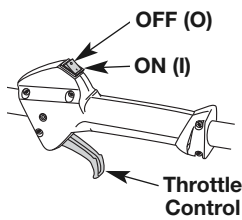

Fig. 6
NOTE: There is no need to turn the unit on. The On/Off Control is in the ON (I) position at all times (Fig. 6).
- Press and hold the On/Off Control switch in the **OFF (O)** position until the unit comes to a complete stop (Fig. 6).
- NOTE:** There is no need to turn the unit on. The On/Off Control is in the ON (I) position at all times (Fig. 6).